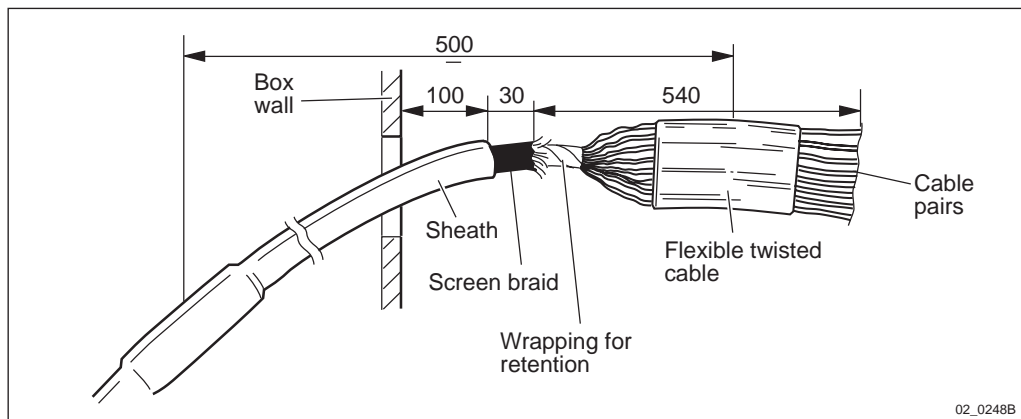

Figure 2 External alarms cable RPM 513 338
4. Strip the end of the cable as shown in figure 2.